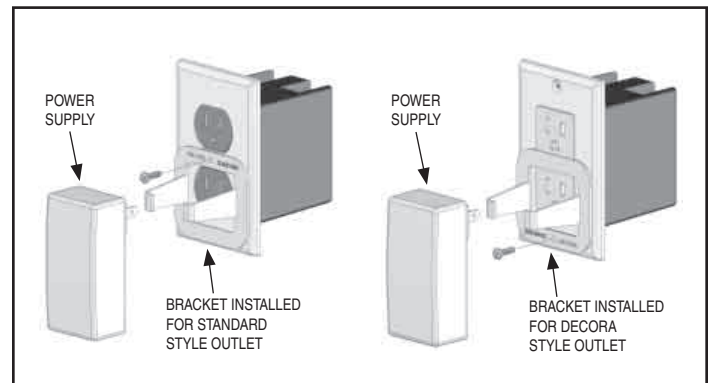

Figure 19. Securing the Power Supply
2. Peel off the adhesive backing from the power supply retaining bracket and attach the bracket to the outlet with a wall plate screw. Note the orientation for a standard or Decora style outlet (see Figure 19).